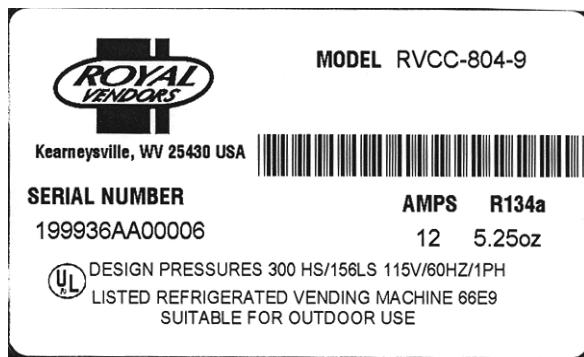

Figure 1.2
**VENDER SERIAL PLATE** - The vender's main serial plate (shown in figure 1.2) is located on the exterior left side of the vender's main door and has the following information:
The refrigeration serial plate is located in the bottom of the vender's cabinet in front of the condenser coil and is mounted to the refrigeration unit "kick plate". It looks similar to the serial plate shown in figure 1.2 with the exception that the model number specified is the refrigeration unit model (as shown below). There is currently one model in use: